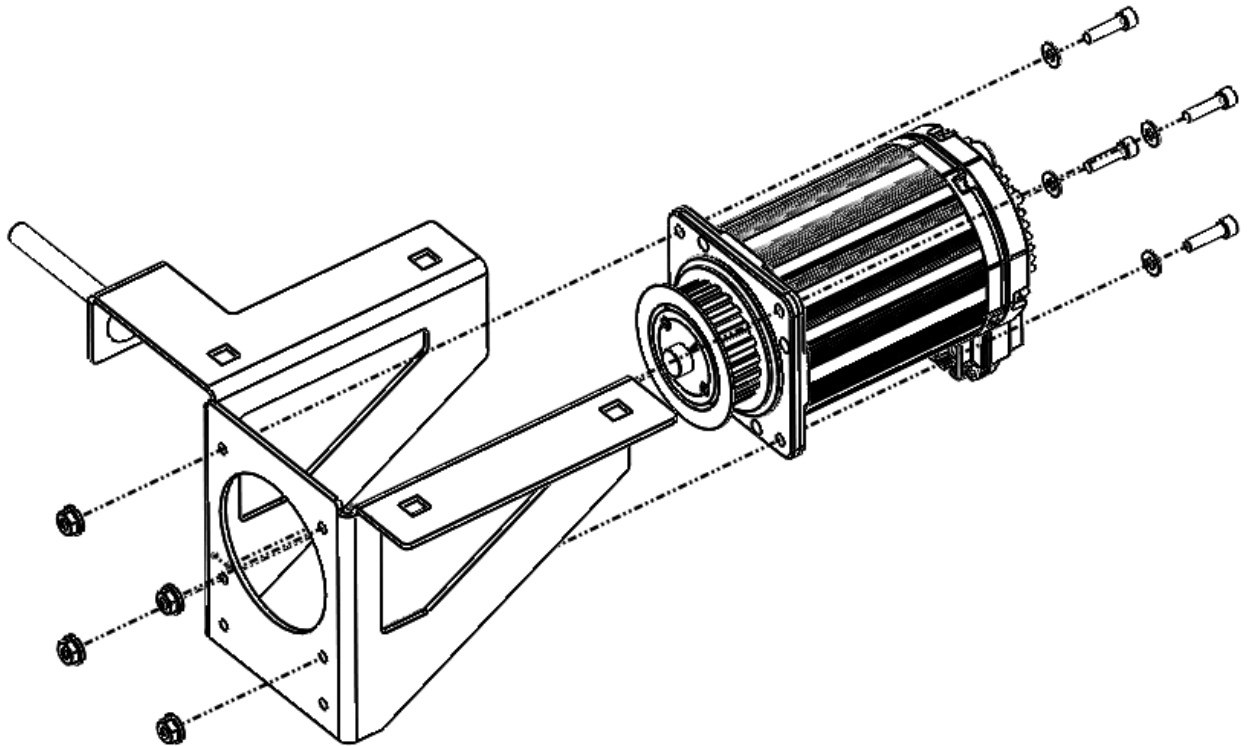

Figure 52: BRBDC Motor Mount Assembly
3. Remove the motor and sprocket assembly from the motor mount by loosening the four bolts shown in Figure 52.
6. Install the motor assembly using four bolts shown in Figure 52. Torque bolts to 80in-lbs.